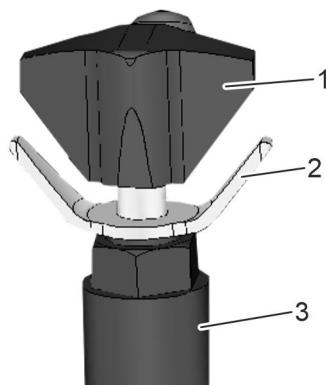

Fig. 17: Pressure adjustment valve
2. ➔ Release the adjustment lock (Fig. 17/2). To do so, turn it anti-clockwise.
3. ➔ Turn the knob (Fig. 17/1) anti-clockwise. Open completely.
Set the pressure during the forward stroke. To do so, press and hold the white button and slowly turn the knob (Fig. 17/1) clockwise. Note the pressure display.